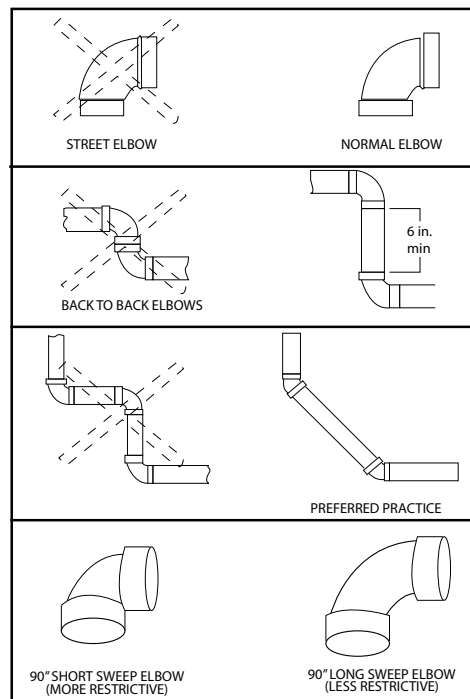

Fig. 14
**Note:** The information provided in Figure 14 is intended as a guideline for good vent installation practices only and is not intended to restrict venting options beyond those restrictions established by the current edition of the **“National Fuel Gas Code, ANSI Z223.1/NFPA 54”** or any applicable local and state codes.
3. Avoid using 90 degree elbows “back to back” and do not use street elbows. Maintain a minimum 6 in. straight section between elbows. Closely coupled and short radius elbows reduce the venting capacity. Figure 14 shows examples of vent pipe connections.